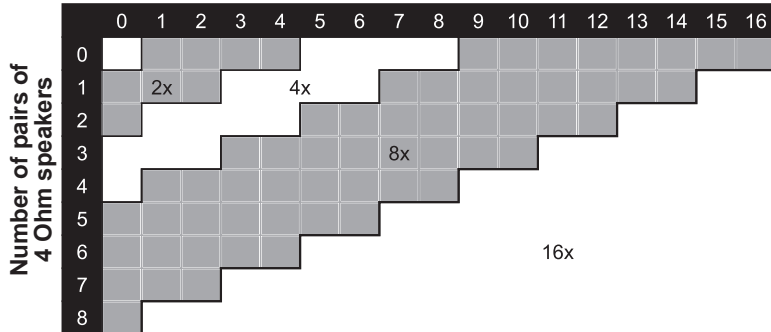
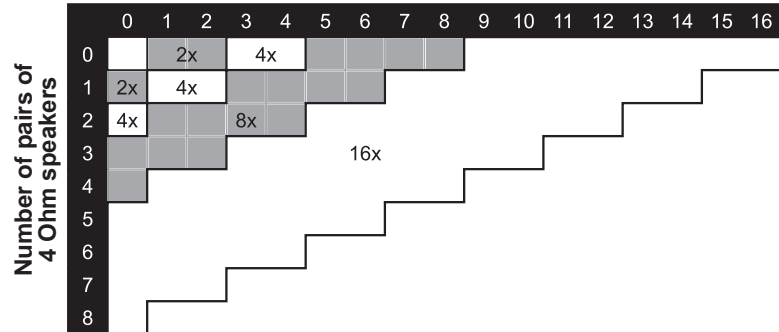

Figure 2
Figure 3
- 3.) Determine the correct impedance match jumper position from the charts shown below. See **Figure 2** if your amplifier can handle a 4 Ohm speaker load. See **Figure 3** if your amplifier can handle an 8 Ohm speaker load.